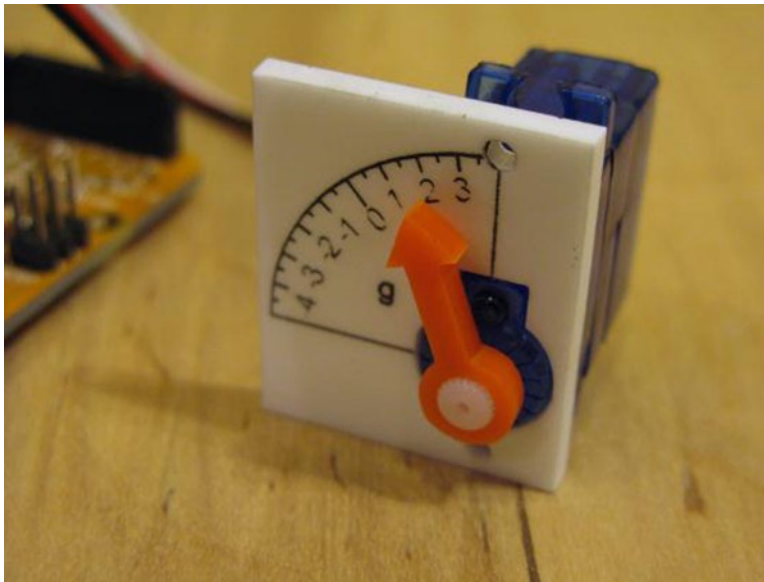

Figure 9-1. A servo being used to control a meter (image by Tod E. Kurt)
In this chapter, we are going to look at servo motors or servomechanisms. A servo is a motor with a feedback system that helps to control the position of the motor. Servos typically rotate through 180 degrees, although you can also buy continuous rotation servos or even modify a standard one for continuous rotation. If you have ever owned a radio-controlled (RC) airplane, you have come across servos; they are used to control the flight surfaces. RC cars use them for the steering mechanism, and RC boats use them to control the rudder. Likewise, they are often used as the moving joints in small robot arms and for controlling movement in animatronics. Perhaps by the end of this chapter you'll be inspired to put some servos inside a teddy bear or other toy to make it move. Figures 9-1 and 9-2 show other ways to use servos.